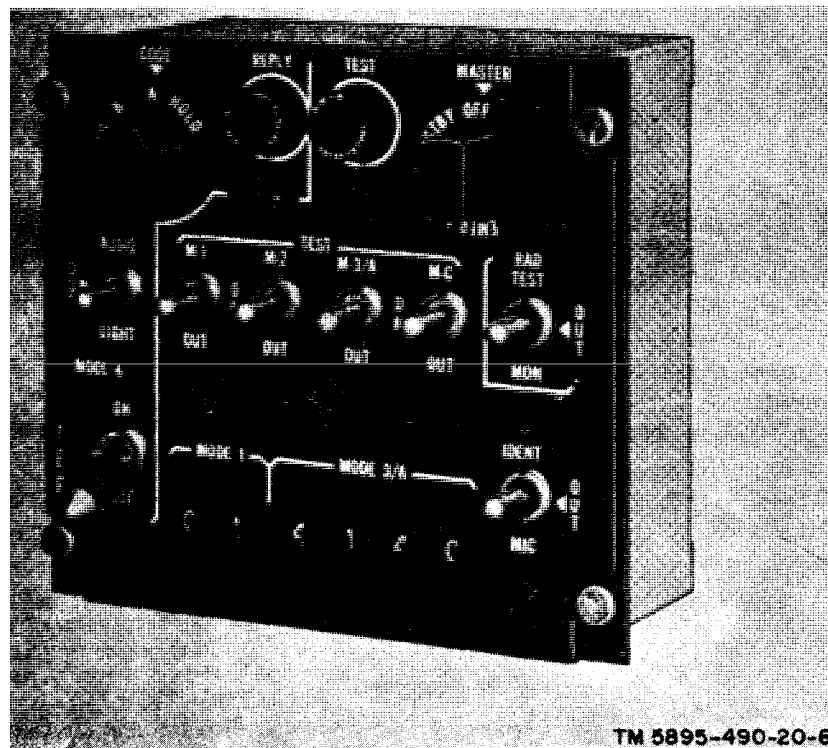

Figure 1-7. Control, Transponder Set C-6280(P)/Apx.
b. *Control, Transponder Set C-6280(P)/APX.* The C-6280(P)/APX (fig. 1-7) (one required) is needed for operation of the RT-859/APX-72. The C-6280(P)/APX applies power to the RT-859/APX-72, determines the modes and categories of operation, and selects the mode code settings except for mode 2. Refer to manual NAVWEPS 16-35C6280-1/T.O. 12P4-2APX-142 (Navy/Air Force) or TM 11-5841-268-25 (Army).